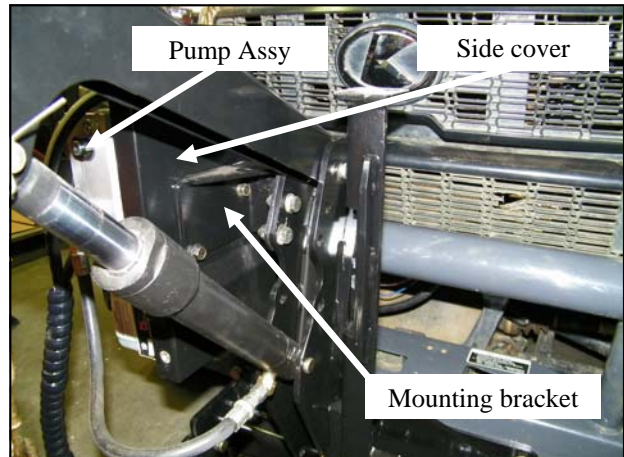

Fig. 13.1—Pump and cover installation
13.1. Per fig 13.1, Position Pump Assy, Side cover and Mounting bracket up against the top of the lift frame matching up mating holes on lift frame and mounting bracket. Using the two 3/8-16 x 1" bolts, and two 3/8-16 Nylock nuts, attach bracket to lift frame. Tighten the Nylock nuts until all thread slack is removed from the assembly.